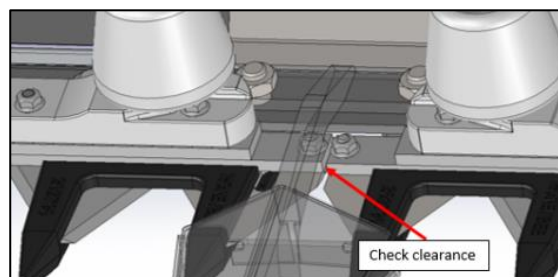

Figure 100
13. Ensure when the RH and LH knives come closest together that there is approximately $3/32$ " of clearance between the ends of the knives. If the clearance is less than this or more than $3/16$ " please recheck timing of pitman arms. Either one of these conditions tells us the timing of the pitman arms to the tie rod ends could be incorrect. Figure 100